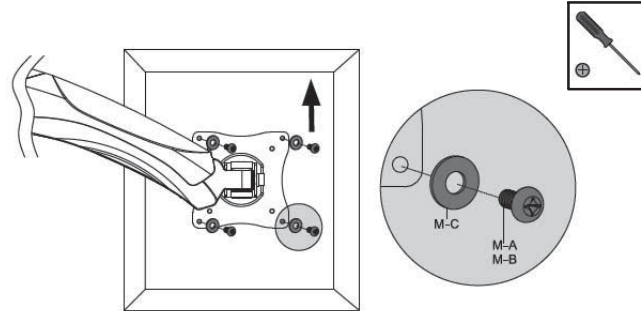

Figure 8
2. Mount the monitor to the Extension Arm Vesa plate, using Washer (M-C) and either M4x12 bolt (M-A) or M5x12 bolt (M-B) and tighten it using a phillips screwdriver, see Figure 8.